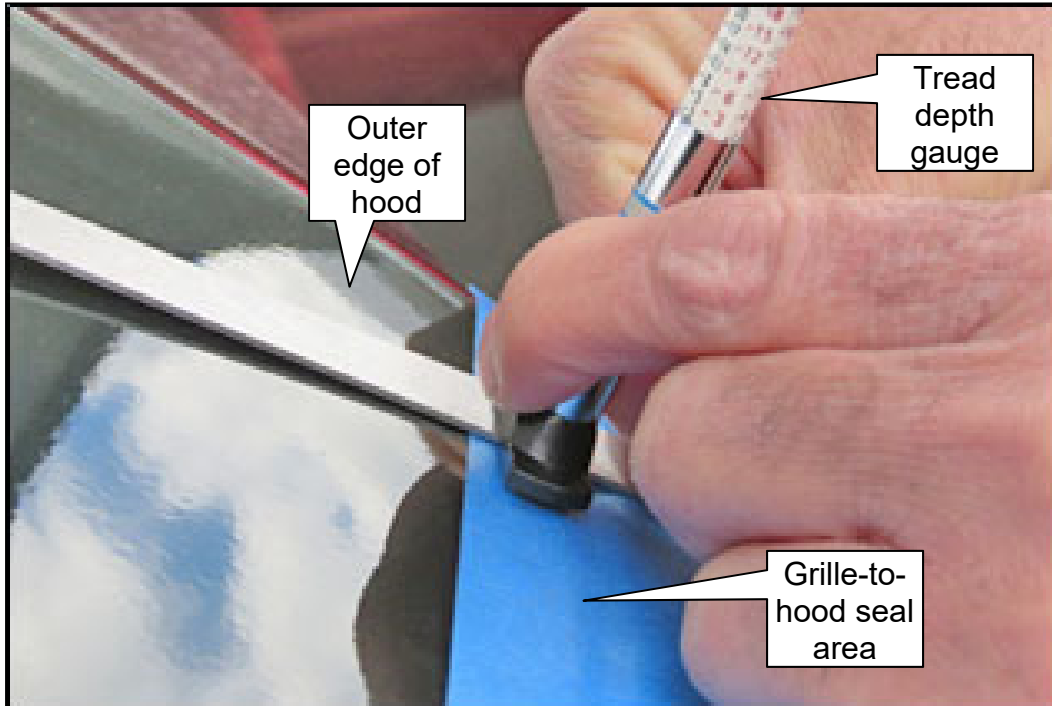

Figure 7
- i. Using a tread depth gauge or similar, measure the distance between the straight edge and the hood or grille if one is not completely flush with the other. Ensure the measurement is taken against the grille or the hood, not in the grille-to-hood seal area. See Figure 7.